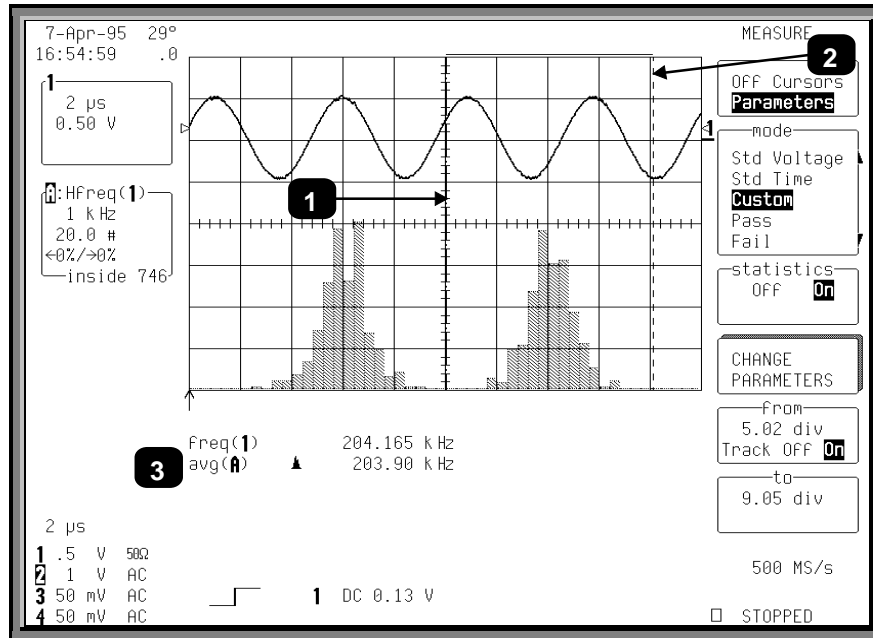

Figure 1.5
Figure 1.5, below shows the use of the parameter cursors (Items ❶ and ❷) in determining the average frequency of the distribution located between the cursors. The average value of the measurements in the right-hand distribution is indicated by ❸.